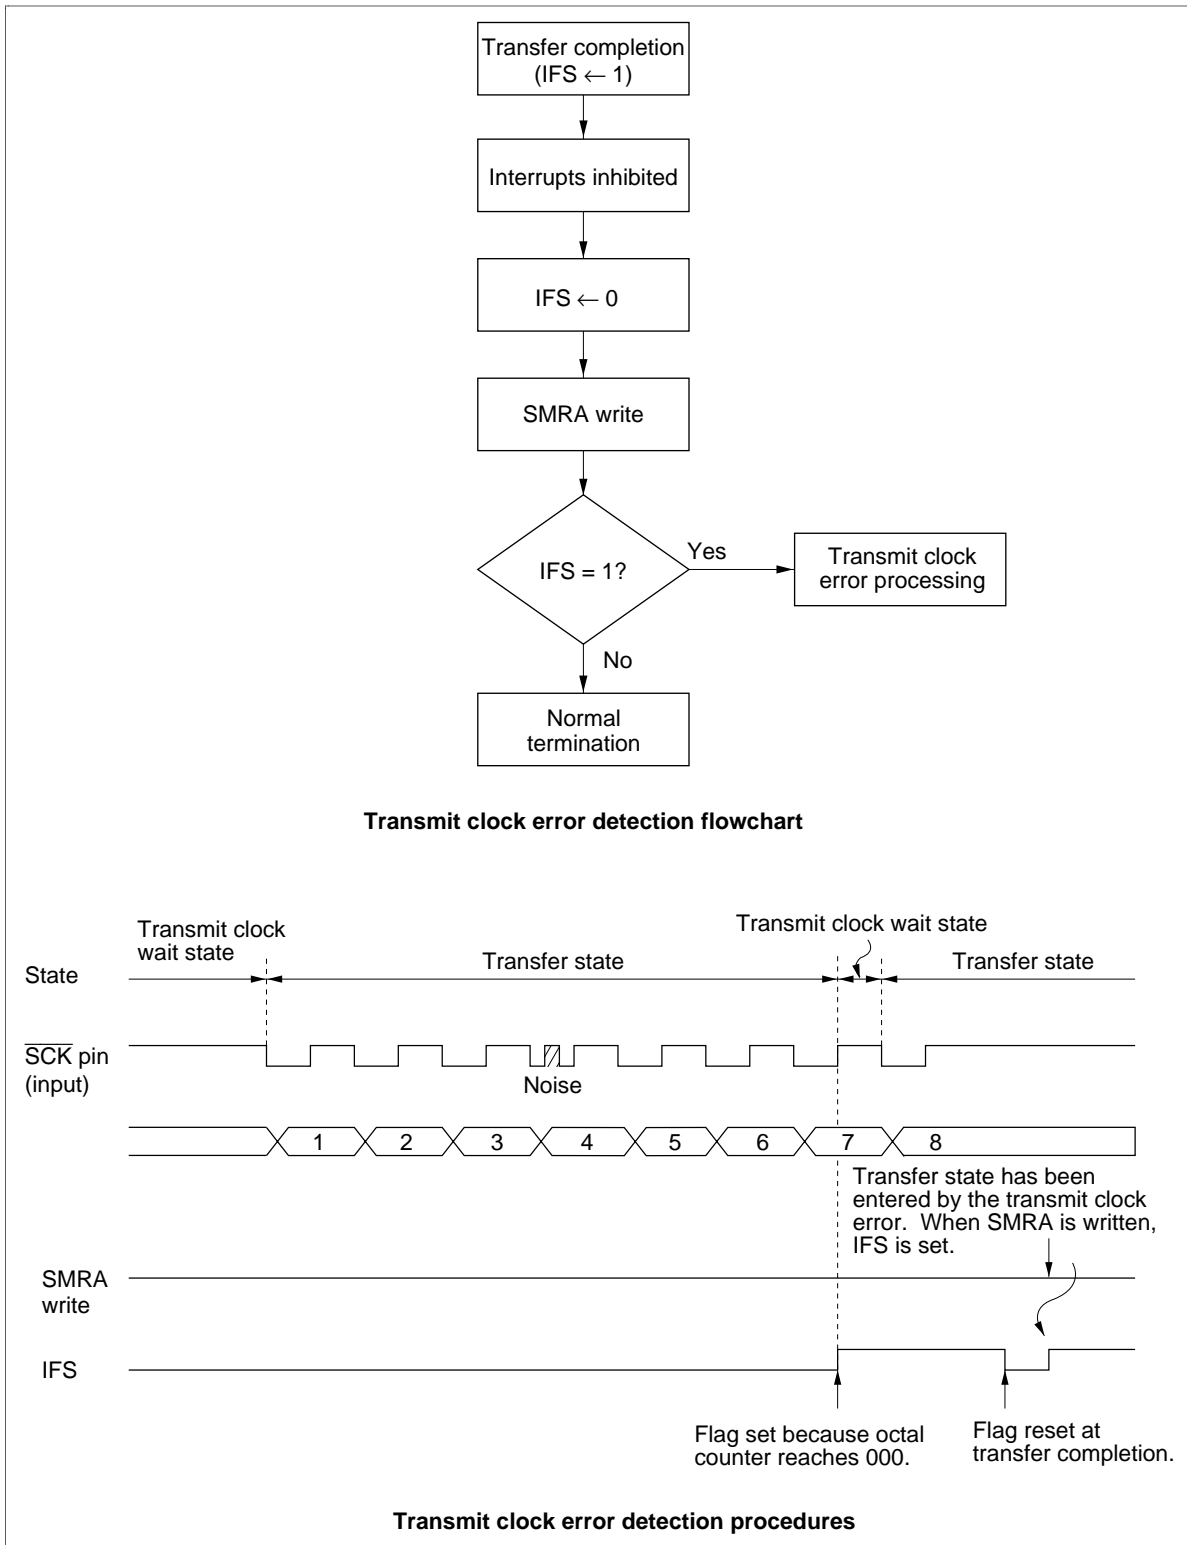

Figure 70 Transmit Clock Error Detection
**Transmit Clock Error Detection (In External Clock Mode):** The serial interface will malfunction if a spurious pulse caused by external noise conflicts with a normal transmit clock during transfer. A transmit clock error of this type can be detected (figure 70).